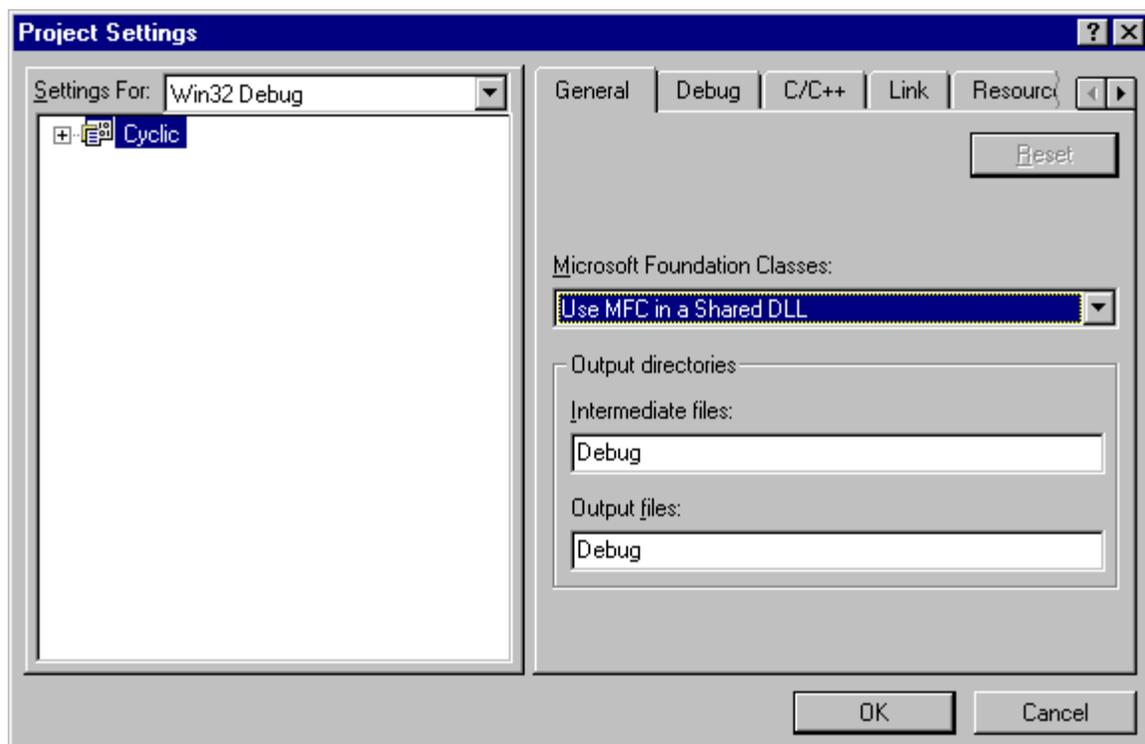

Figure 42 Project Settings Dialog After Modifications.
1. Now for the last few steps. It seems like it has taken forever to get here, but you're finally here. At this point you need to add in the call to the TReK Application Programming Interface library. Remember, in this application you want a new value for MSID038 to show up in the main window once every second. To make this happen you need to call the `GetOneNewestConvertedIntegerValue` function in the TReK Application Programming Interface once every second to get the new value and then display it in the main window. In order to use the TReK API library you need to tell Visual C++ that you want this library to be linked into your application. In Visual C++, go to the **Project** menu and choose **Settings....** Look at the **Microsoft Foundation Classes** menu and change the selection so it is set to **Use MFC in a Shared DLL**. Your dialog should now look like the one shown in Figure 42.